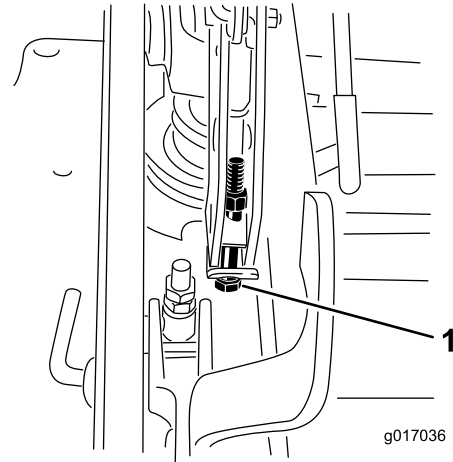

**Figure 107**
11. To adjust the single-point system, loosen the 2 bolts at the bottom of the height-of-cut plate (Figure 107).
13. Tighten the 2 bolts at the bottom of the height-of-cut plate (Figure 107).